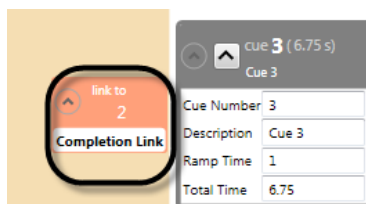

Figure 155
3. The new link will appear in the left margin of the **Cue Grid** (Figure 155).